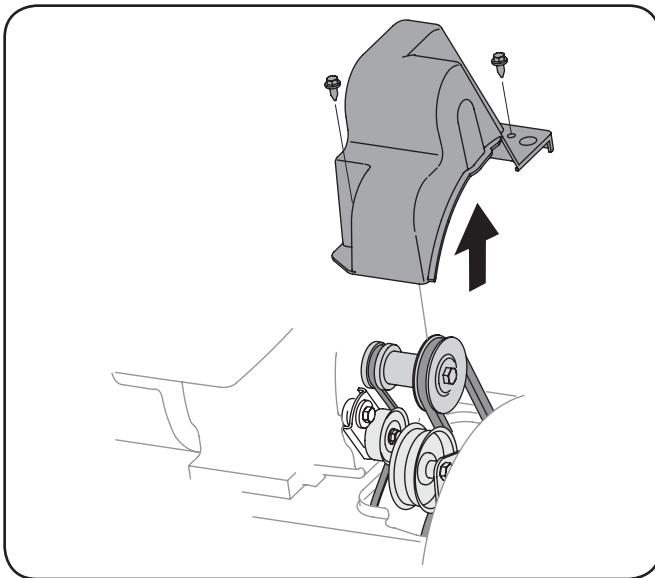

Figure 7-1
2. Remove the plastic belt cover at the front of the engine by removing the two self-tapping screws. See Fig. 7-1.
- Remove the plastic belt cover on the front of the engine by removing the two self-tapping screws. Ref. Fig. 7-1.